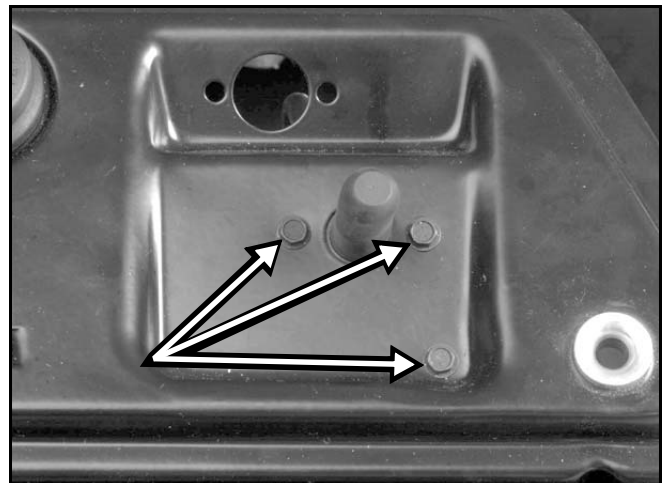

Figure 58
2. Remove three screws holding the switch box to the control panel support (Figure 58).